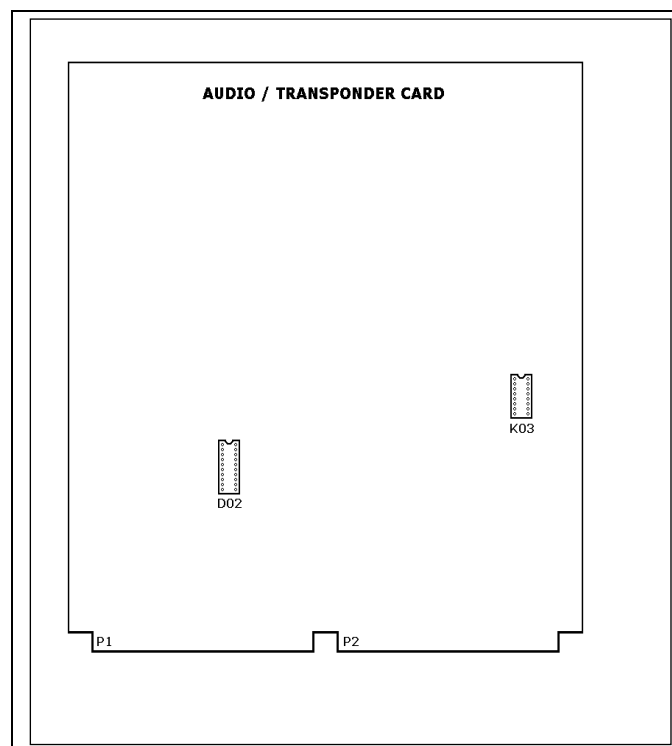

Figure 3.1
Step 2: Identify (see Figure 3.1 below), de-solder, and remove the 74LS139 chip located in position K03.
Step 3: Solder the supplied 16 pin socket in position K03. Take care to orient the socket correctly as shown in Figure 3.1.
Step 4: Next, identify (see Figure 3.1), de-solder, and remove the 74LS273 chip located in position D02.
Step 5: Solder the supplied 20 pin socket in position D02. Take care to orient the socket correctly as shown in Figure 3.1.